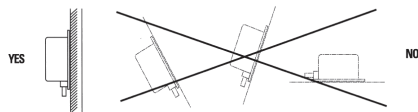

Figure 7
- 8) Because a gauge will be calibrated in a vertical position, a gauge must be installed vertically. (Figure 7)